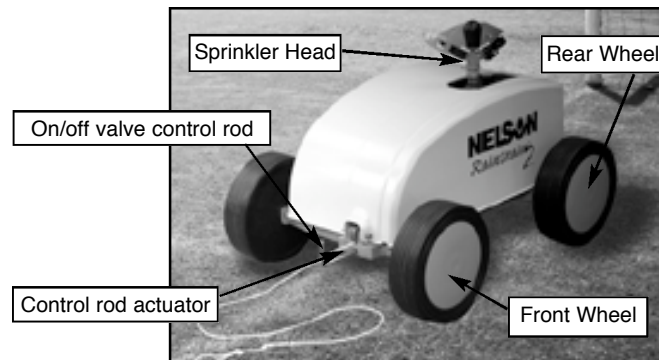

Figure 9. Front left hand corner view of the machine.
2. Carefully lift the front of the unit and verify that the wheels rotate freely (see figure 9). Repeat for the rear wheels. (Note: The wheels will exhibit a slight amount of friction). If a wheel does not rotate freely, disassemble, clean, and replace (See Disassembly and Assembly).
3. Check sprinkler head for loose, worn, or missing pieces (see figure 9). Adjust or replace if necessary.
4. Verify that the on/off valve control rod functions correctly (see figure 9). Control rod should be turned down to release and slid forward. Turn the rod up. This is the 'on' position. Push the rod firmly towards the rear of the machine. Rod should move with light effort and catch in this rearward position. This is the 'off' position.
5. Verify that the control rod actuator is firmly attached to the cable and is at the appropriate distance from the cable end (see figure 9). The distance from the cable end may vary for certain applications.